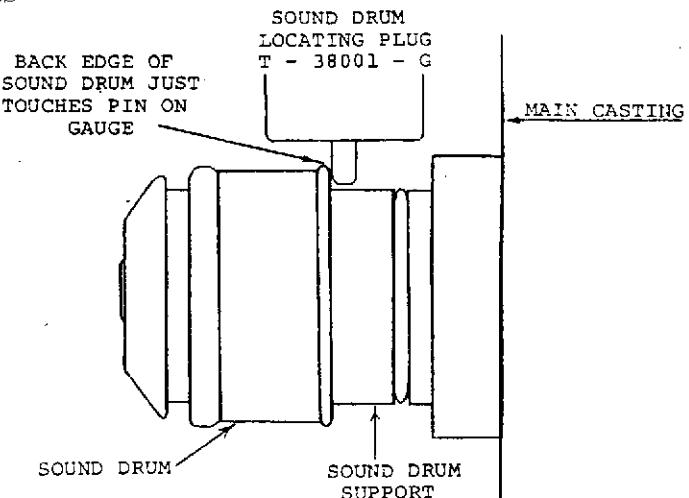

Figure 3-34. SOUND DRUM ALIGNMENT
- Insert the Sound Drum in the Sound Drum Support and push this entire assembly toward the main casting until the back edge of the Sound Drum just touches the Pin on the Locating Plug. (Figure 3-34) Be sure to maintain the centering accomplished in Step 3 while making this adjustment.